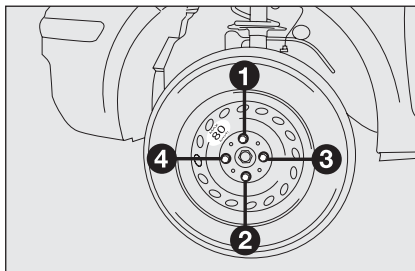

fig. 6
- use the wrench provided to fasten the bolts completely in a criss-cross fashion as shown in **fig. 6**;